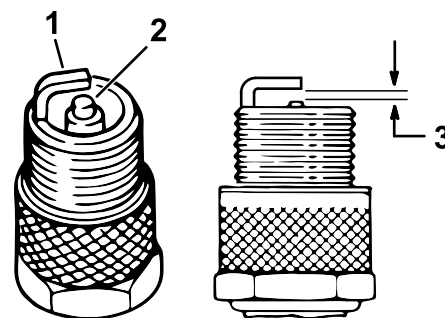

Figure 41
4. Check the condition of the side electrode, center electrode, and center electrode insulator to ensure that there is no damage (Figure 41).
5. Set the air gap between the center and side of the electrodes at **1 mm (0.04 inch)** for **EFI models** or **0.76 mm (0.03 inch)** for **carburetor models** as shown in Figure 41.